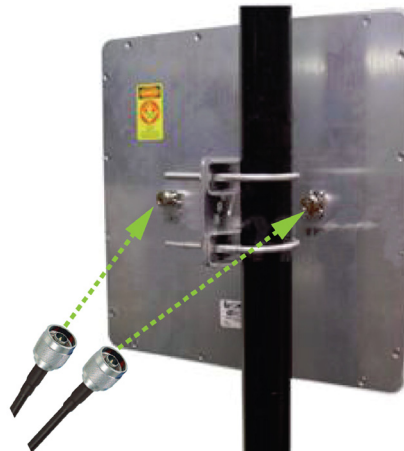

Figure 31. Installing Antennas to the Access Point
3. Connect cables to the connectors on the back panel of the antenna as shown in Figure 31.